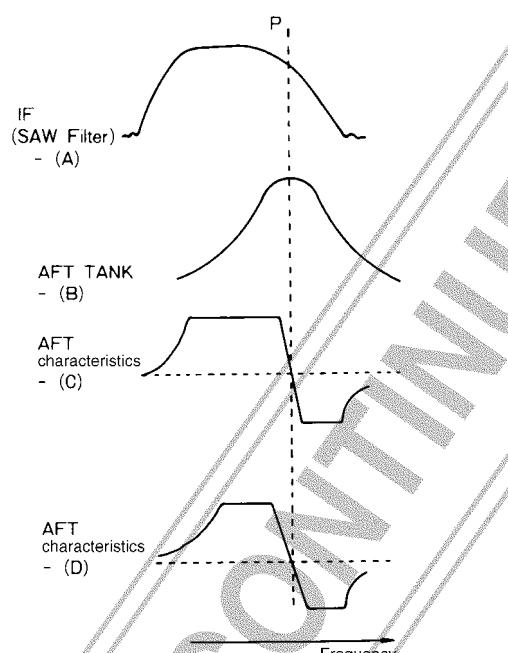
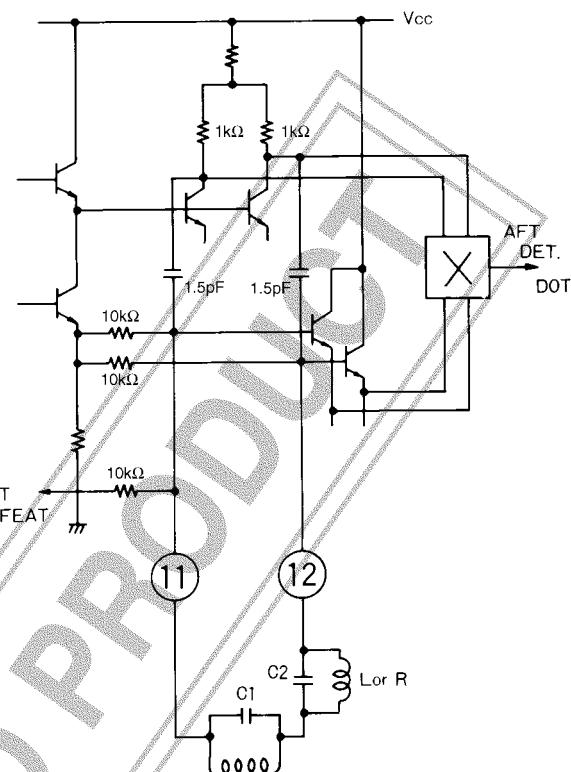

Figure 17. AFT tank characteristics
Figure 18. AFT tank
The automatic frequency tuner (AFT) tank connected to pins 11 and 12 generates the 90° phase shift required for quadrature detection. The band-pass frequency characteristics of the IF SAW filter and the AFT tank are shown in Figure 17(A) and 17(B), respectively. The combined response is shown in Figure 17(C). The resulting extended low-frequency response, which increases susceptibility to incorrect operation, can be reduced by connecting capacitor C2 in series with the AFT tank as shown in Figure 18. The resultant frequency response is shown in Figure 17(D).